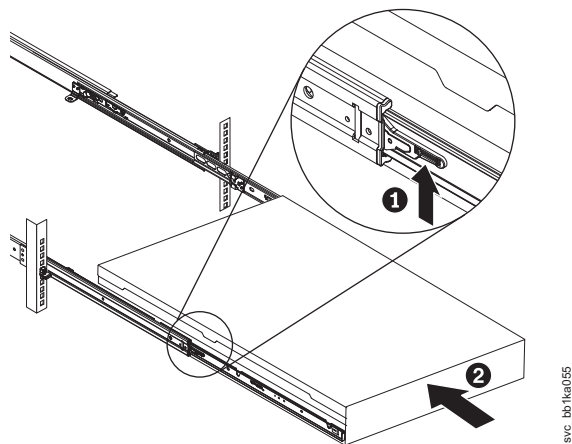

Figure 175. Raising the 2145-DH8 locking levers of the slide rails of the rack
30. Lift the locking levers (**1** in Figure 175 on page 210) on the slide rails and push the server **2** all the way into the rack until it clicks into place.